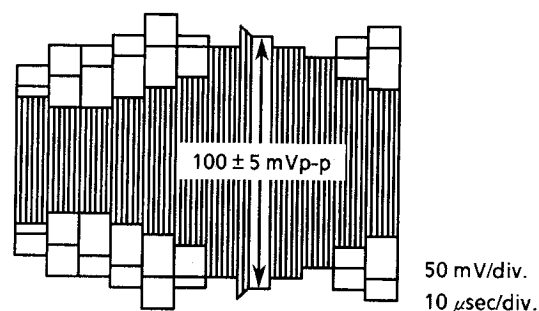

Figure 1-11.
4. Adjust R208 (recording FM control) so that the sync tip be 100 ± 5 mVp-p as shown in **Figure 1-11**.